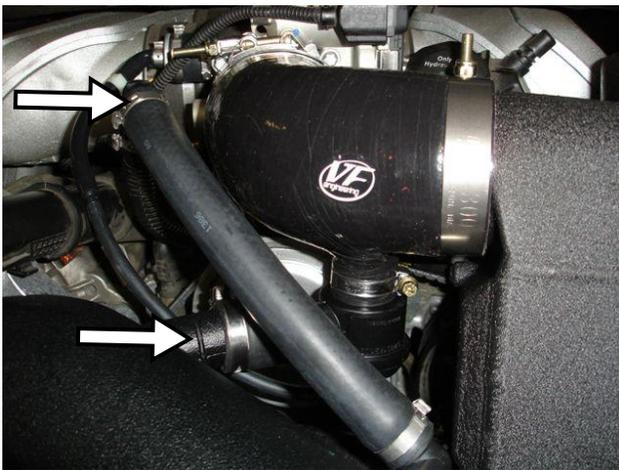

Figure 42
- Align and connect the hose, pre-installed on bypass valve (16), to the port on the intake pipe and fasten with hose clamp (figure 42).
- Route the long hose pre-assembled to the intake pipe (18) toward the OEM CCV and connect the two. Secure with a hose clamp (figure 42).